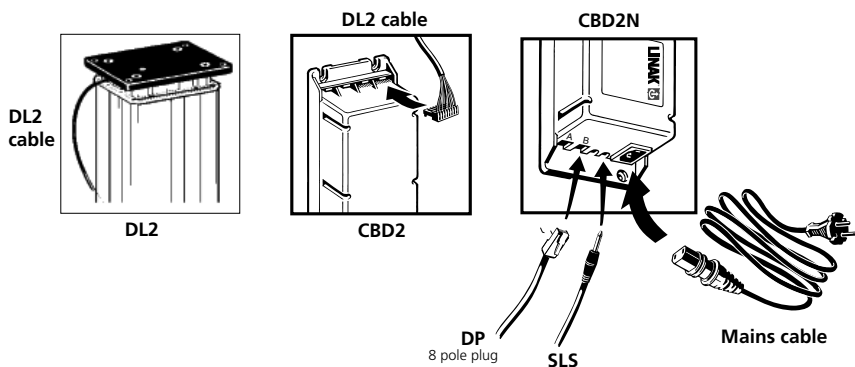

Figure 3
The DESKLINE® system is to be connected as shown on figure 3. *The DL2 is to be connected to the socket on the control box by means of the motor cable, which is supplied with an 8-pin plug.* The connection of the DL2's are on the same side of the control box.
See figure 3.
The control (DP) is to be connected to port B on the control box - the opposite side of the DL2 column (see figure 3).
Up to 2 SLS (Safety Limit Switches) can be connected to the control box on the opposite side of the lifting units. The connection is made by DC mini jack plugs (see figure 3).